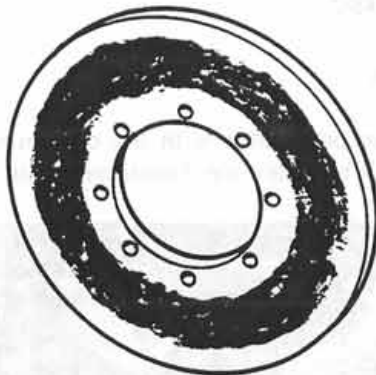
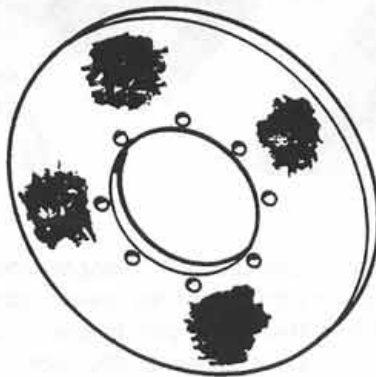

Figure 3:
Figure 4:
3. Observe the finish of the brake disc. It should be smooth enough to eliminate a grinding action on the brake pads. The finish of the brake disc should be uniform throughout the entire circumference (Fig. 3). If spotted heavily with "welded" brake pad material (Fig. 4), replace the brake disc.